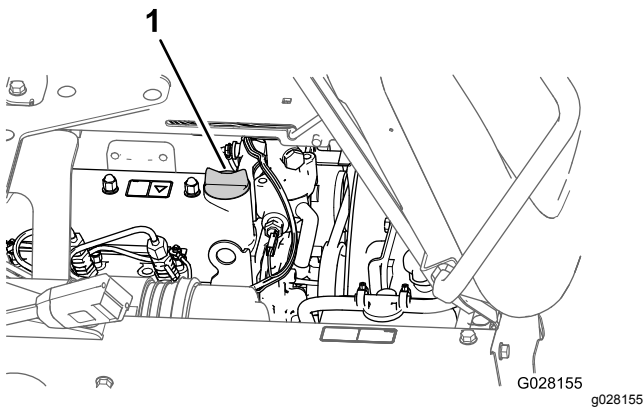

Figure 69
3. If the oil level is low, remove the filler cap from the valve cover and pour oil into the filler neck until the oil level is up to the Full mark on the dipstick (Figure 69).